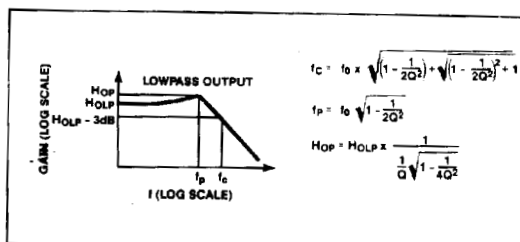

Figure 2. Lowpass Filter Terminology
- H_{OLP} : The gain in V/V of the lowpass output as $f \rightarrow 0$ Hz, See Figure 2.